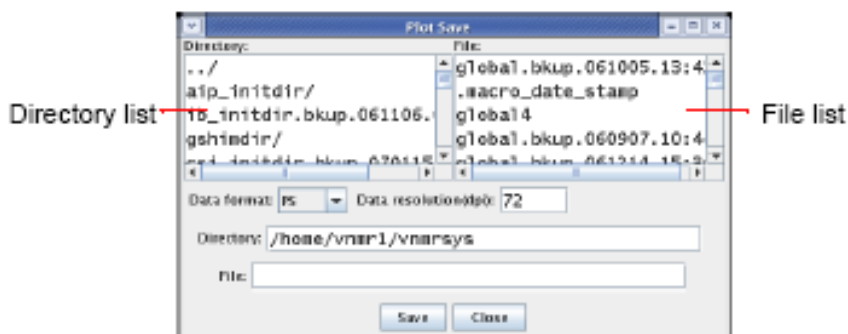

Figure 84 Plot save window
- 1 Click **File** in the **Main Menu**, then **Save Data** to open the **Plot Save** window shown in Figure 84.